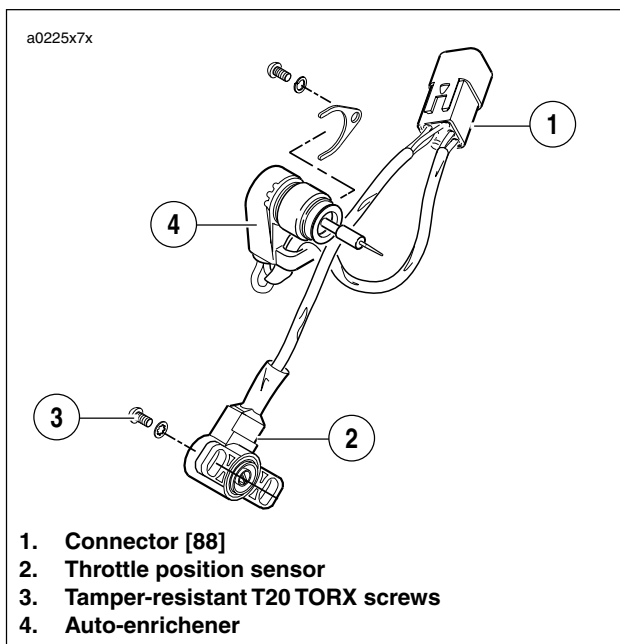

Figure 7-98. TP Sensor/Auto-Enrichener Connector [88]
16. See Figure 7-98. Mate TP sensor/auto-enrichener connector [88] and secure with cable strap.